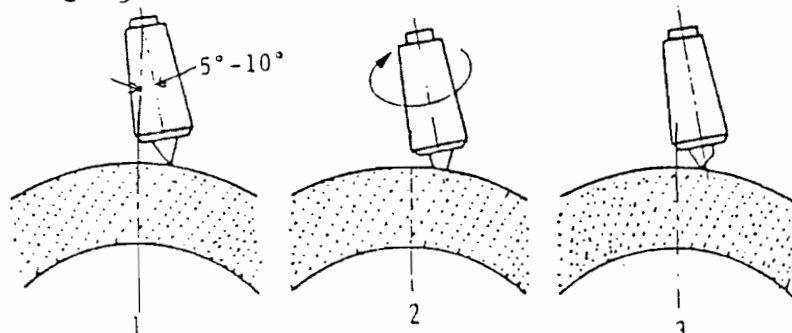

Fig. 9
- The installation of a diamond dresser should be inclined to an angle $5-10^\circ$ from the wheel centerline. When the diamond bit become dull, just turn the diamond collar to the desired angles, shown as Fig. 9.